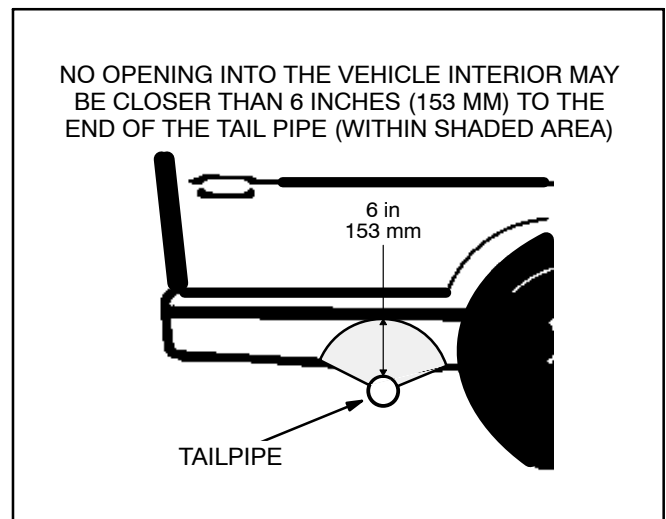
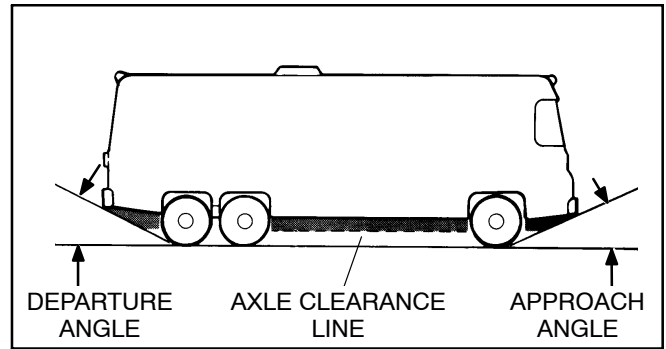

FIGURE 3-5. MINIMUM DISTANCES TO OPENINGS
FIGURE 3-6. VEHICLE CLEARANCES
Below-floor mounting kits are available from Onan. Carefully follow the instructions in the kit. Reinforce a plywood or particle board floor with steel to resist the dynamic weight of the genset. Do not mount the genset within the approach or departure angles of the vehicle or below the axle line (Figure 3-6).
⚠ WARNING *EXHAUST GAS IS DEADLY! To keep exhaust gases from entering the vehicle do not terminate the exhaust tailpipe underneath the vehicle or closer than specified to openings into the vehicle (Figure 3-5) or route it such that it is likely to be damaged (Figure 3-6). Use approved materials and parts only.*
8. Do not terminate the tailpipe such that it is closer than 6 inches (153 mm) to any opening into the vehicle interior (door, window, vent). See Figure 3-5.
10. Route the tailpipe such that it is not likely to be struck when the vehicle is moving. Keep it out of the approach and departure angles of the vehicle and above the axle clearance line (Figure 3-6).